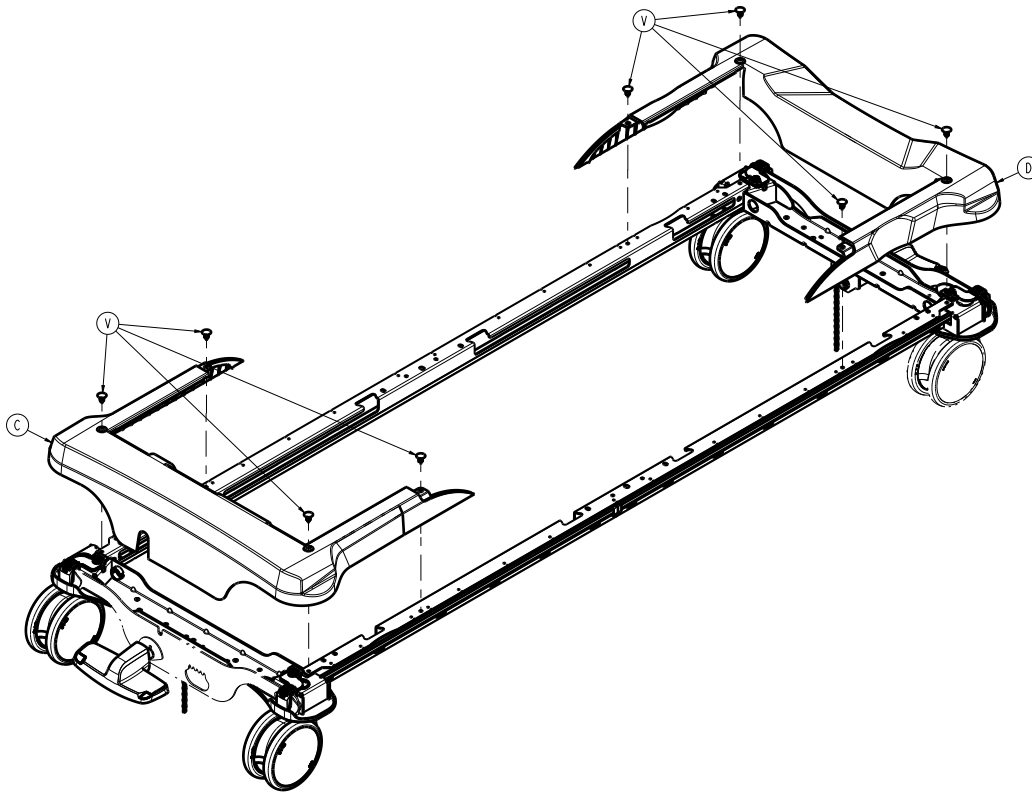

Figure 12 – Removing the covers
6. Using a slotted screwdriver and diagonal pliers, remove the eight retainers (V) that secure the head end (C) and foot end base covers (D) to the base frame (Figure 12). Discard the retainers. Remove the covers.